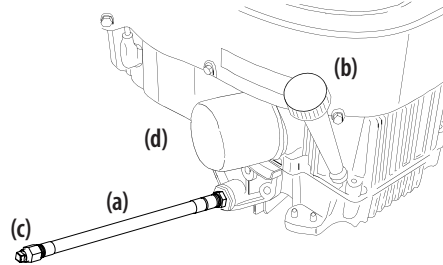

Figure 35
3. While holding the free end of the oil drain hose over the oil collection container, unscrew the square head hose plug (c) from the end of the oil drain hose. See Figure 35. Drain the engine oil into the collection container.